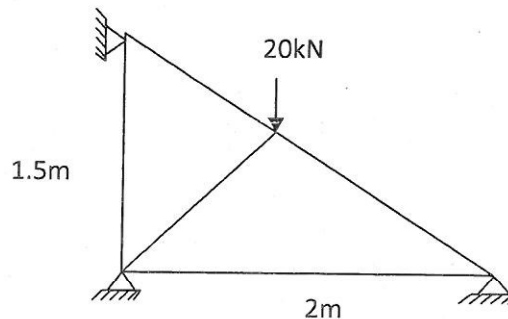

Fig.2
- Q.2 Determine the forces in members of truss loaded as shown in fig.2. by using finite element method. Take $A=10\text{cm}^2$ and $E=200\text{ GPa}$, for all members. CO2 16